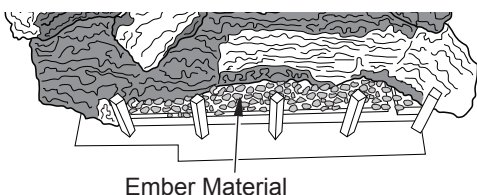

Figure 50 - Placing Ember Material on Burner
- Pull ember material apart into pieces no larger than a dime. Place these pieces loosely and sparingly directly onto the exposed section of the front burner and along space between burner and grate prongs (see Figure 50). This will create the glowing ember appearance as flame touches the ember material. Do not block air slots by using too much ember material in one area. It is not necessary to use all of the ember material provided.